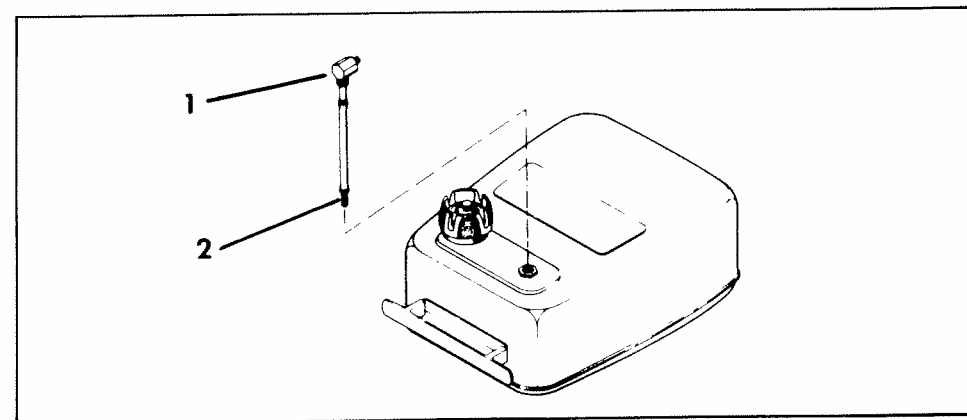

FIGURE 23
1. Remove fuel line from fuel tank. (See Figure 23.)
2. Remove fuel tank adapter (1) to gain access to fuel filter on bottom of pick-up tube (2). Wash filter in clean gasoline. Replace if rusted, corroded or damaged.